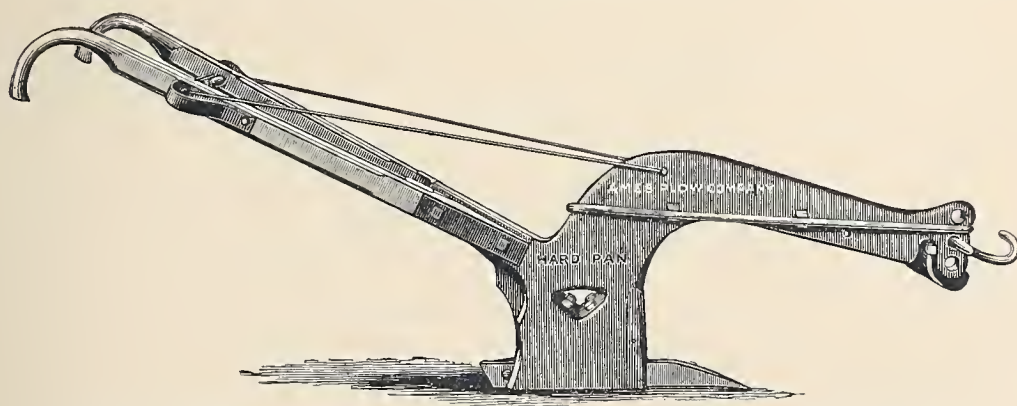

Fig. B 304.—Truss Beam Hard Pan Plow or Power Pick.
*The Truss Beam Hard Pan Plow, or Power Pick*, shown at *Fig. B 304*, is one which we have recently perfected for the special use of contractors in tearing up macadam and other forms of road-bed. It is claimed that for this purpose there